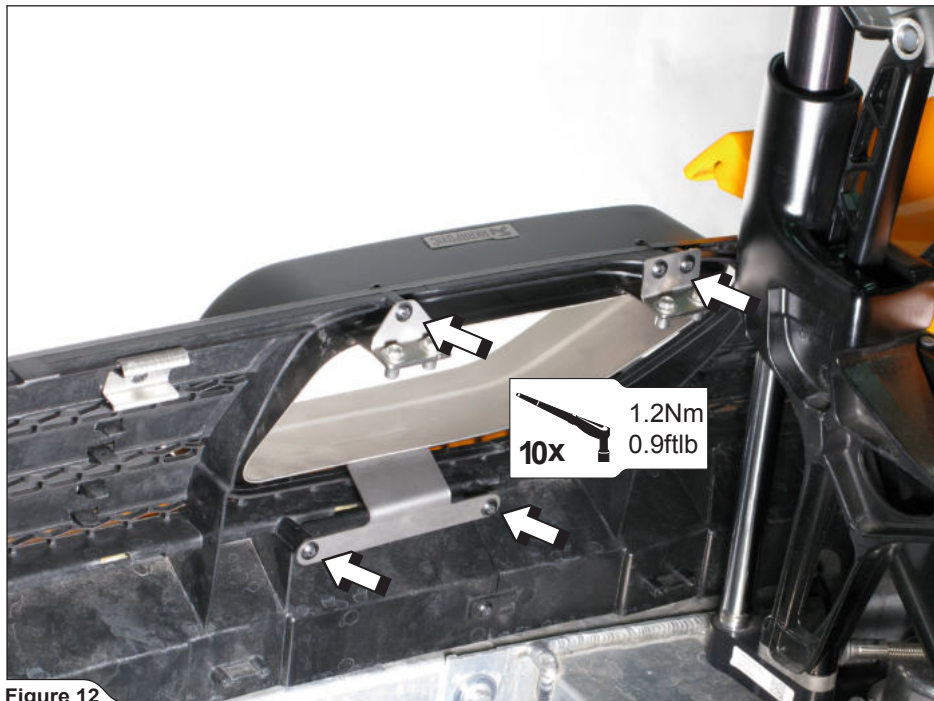

Figure 12
- Adjust and center both tail pipes in respect to the trim panel and rear bumper and screw the tail pipes onto the trim panel, using stock bolts (**Figure 12**).